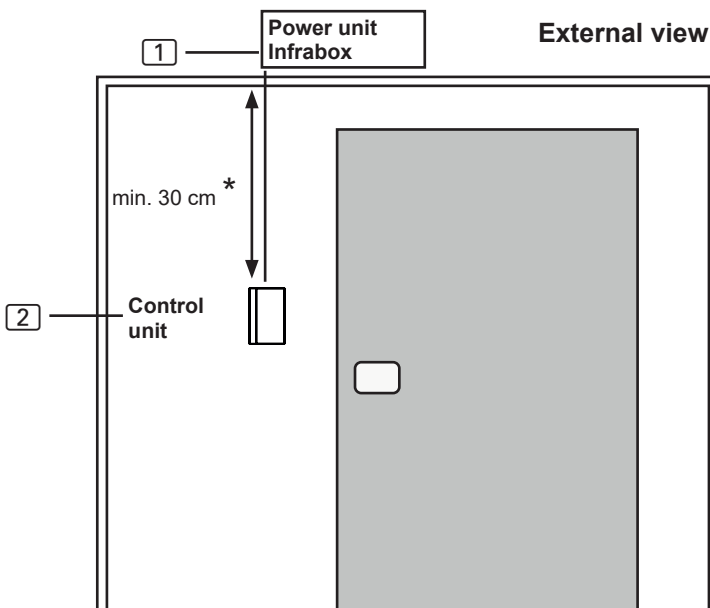

Fig. 2 Control unit position
The control unit **[2]** of the infrared controller is installed on the outside wall of the cabin with a maximum clearance of 10 metres from the power supply unit **[1]** (see Fig. 2). For the installation, a standard jigsaw is required to cut out the recess for the control unit. The control unit can be installed both inside and outside the cabin.
* For installing inside an infrared cabin, a minimum clearance of 30 cm must be maintained (see Fig. 2 Control unit position on page 11).